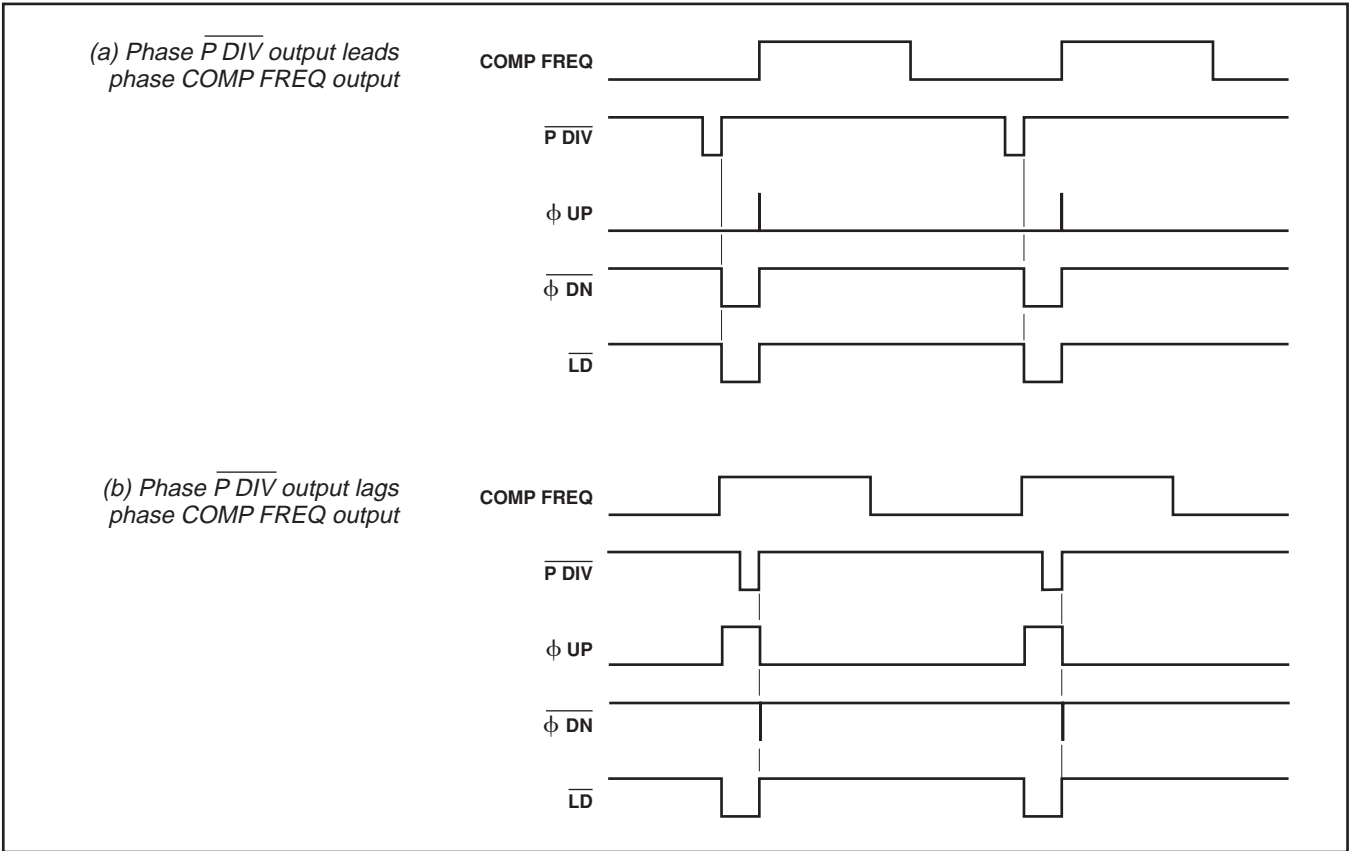
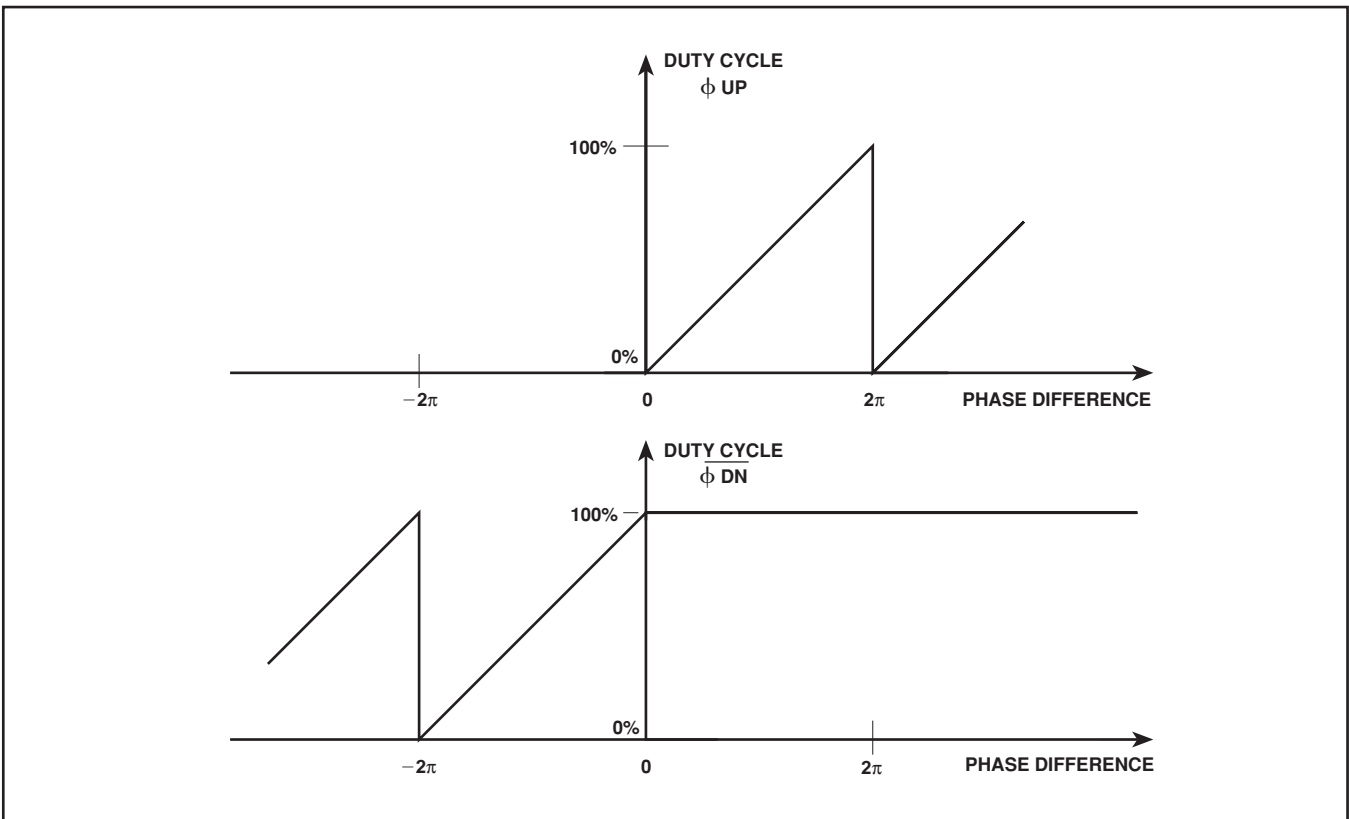

Fig. 6 Phase comparator waveforms
Fig. 7 Phase comparator output characteristics
The phase comparator consists of a digital type phase comparator with open drain  $\phi$  UP and  $\phi$  DN outputs and an open drain LOCK DETECT (LD) output. Open drain outputs from the reference divider and programmable divider are provided for monitoring purposes or for use with an external phase comparator. Waveforms for all these outputs are shown in Fig.6. The duty cycle of  $\phi$  UP and  $\phi$  DN versus phase difference are shown in Fig. 7. The phase comparator is linear over a  $\pm 2\pi$  range and if the phase gains or slips by more than  $2\pi$ , the phase comparator outputs repeat with a  $2\pi$  period.
Once the phase difference exceeds  $2\pi$ , the comparator will gain or slip one cycle and then try to lock on to the new zero phase difference. Note that very narrow pulses may be seen on the inactive phase comparator output at the end of the pulse on the active output, as shown in Fig. 6.